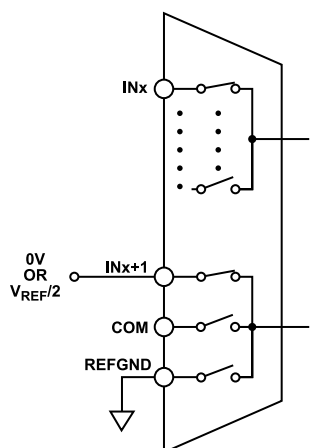

Figure 71. Even-Channel and Odd-Channel Paired
- Figure 71, even numbered input paired with the next highest odd numbered input (for example, IN0 with IN1, IN2 with IN3, and so on).